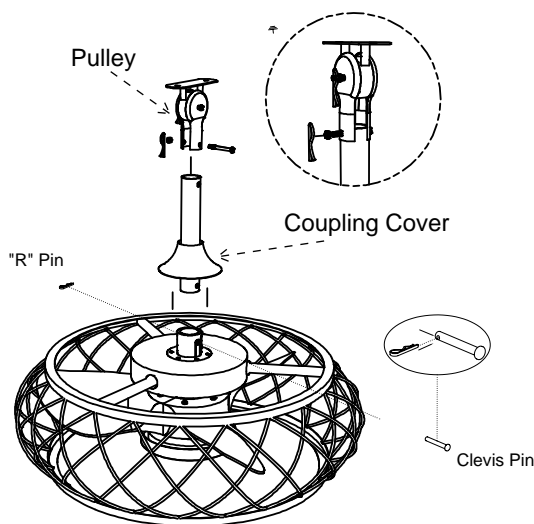

Fig.1
Step 2. Install the downrod onto the pulley assembly as shown in the top right corner of Fig 1.
Step 1. As shown in Fig 1, remove the two pairs of Clevis Pins and the "R" Pin from the pulley assembly, and take out the U-shaped hook from the pulley assembly.